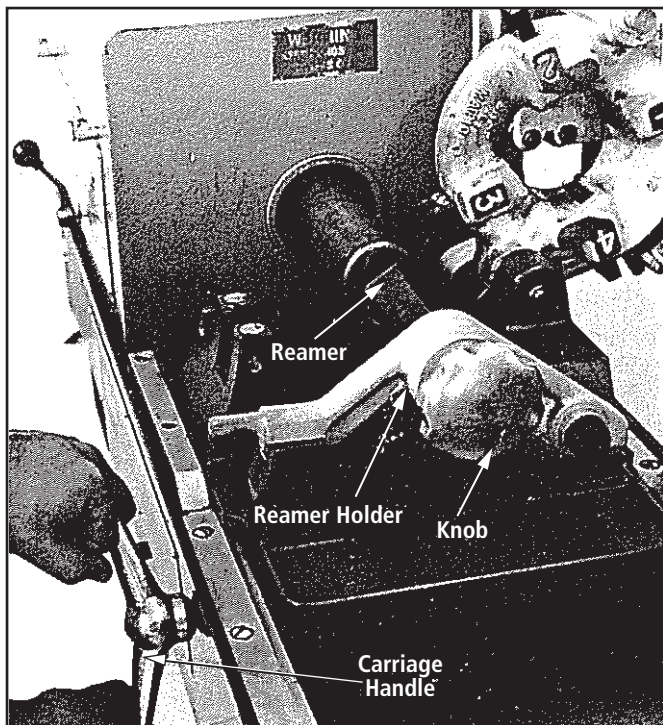

Figure 8
- A reamer (Fig. 8) is provided to remove burrs from inside diameter of cut pipe. To use reamer, raise cutter and die head. Swing reamer down into alignment with pipe.